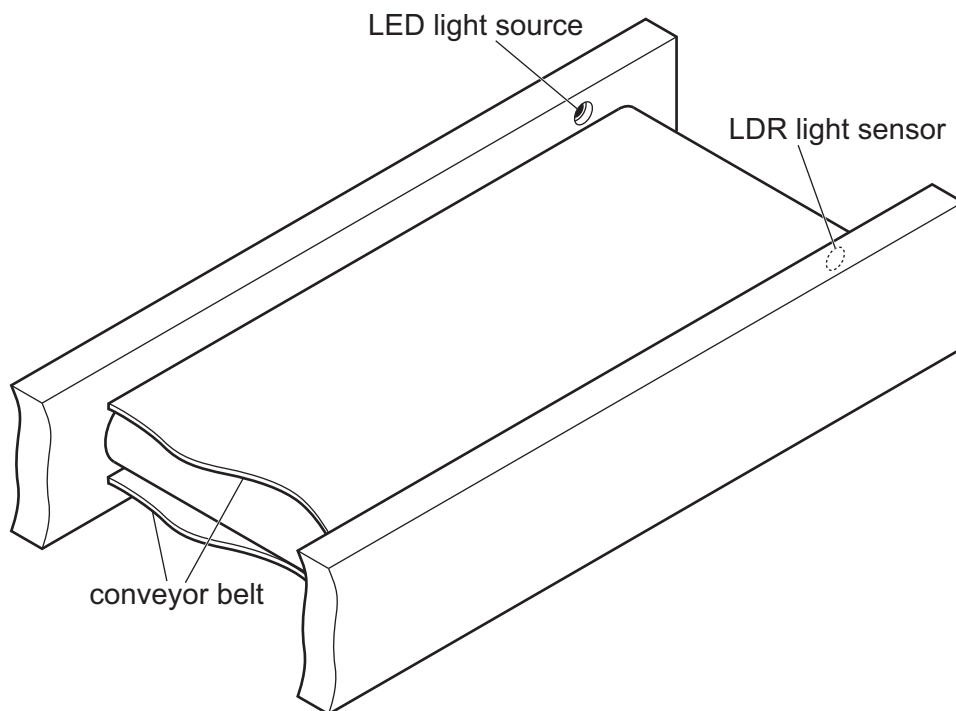

Fig. 12.1
- 12 Fig. 12.1 shows a conveyor belt used to move boxes in a manufacturing unit. A sensor circuit will stop the conveyor belt when a box is between the light source and light sensor to allow boxes to be removed.